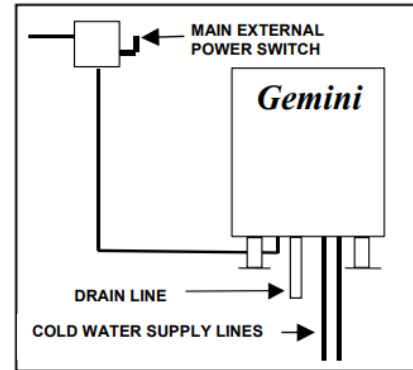

Figure 5-1 Main External Power Switch
4. Refer to the main external power switch in Figure 5-1 and turn on electric power to the steamer. The steam generators will immediately start blowdown cycles. The blowdown cycle lasts 3 minutes (Find Chapter 6 “Shutdown and Cleaning Procedure” for blowdown cycle).